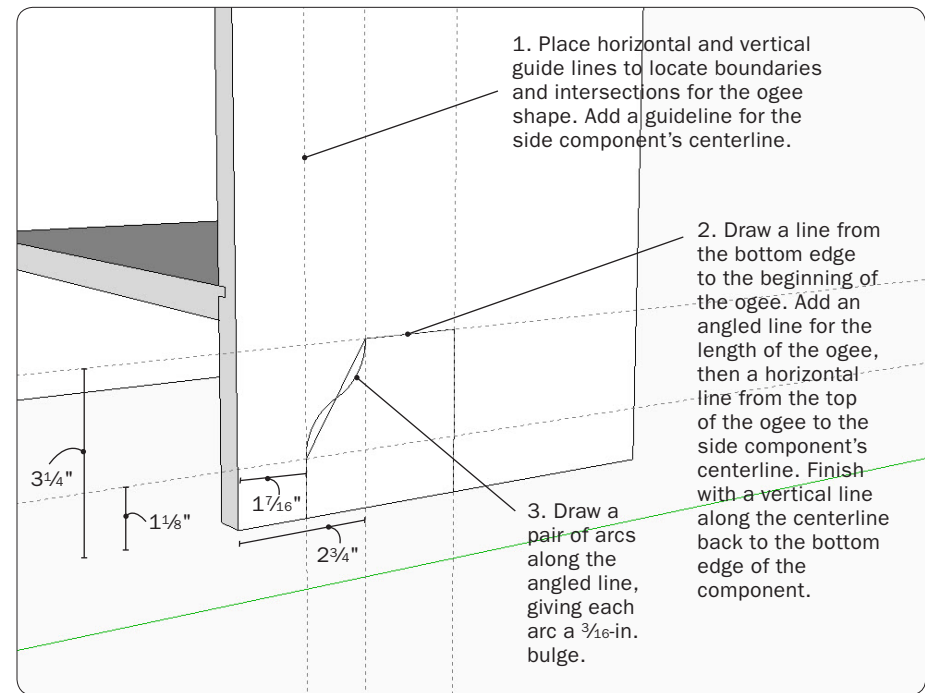

Figure 8. You need to draw only one ogee-shaped cutout. You copy and flip it to add the rest to the model.
Step 5 Right-click the side component and choose Edit Component from the pop-up menu. Use the Tape Measure Tool to place guidelines that will help you shape the ogee cutout on the side components. Follow the dimensions shown in Figure 8.
Use the Line Tool to draw an angled line along the path of the ogee curves. Use the Arc Tool to draw two arcs from the endpoints to the midpoint of the angled line, as shown in Figure 8. Apply a $\frac{3}{16}$ -in. bulge to each arc. (As you begin moving the cursor, type $\frac{3}{16}$ to set the bulge.)
Use the Line Tool to draw the straight horizontal and vertical lines to complete the shape, as described in Figure 8.